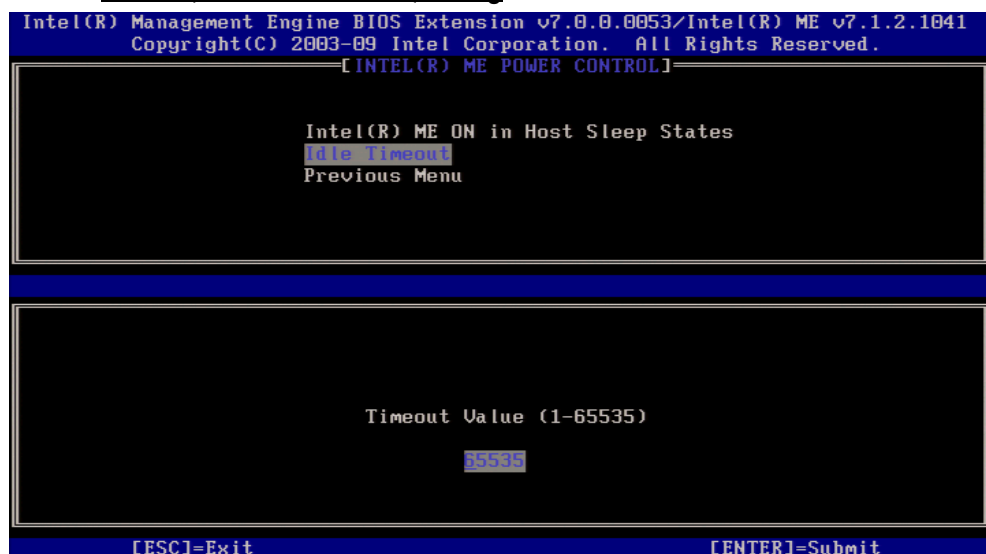

Figure 7. Intel ME Idle Timeout Screen
- b. Select **Idle Timeout** (Figure 7).